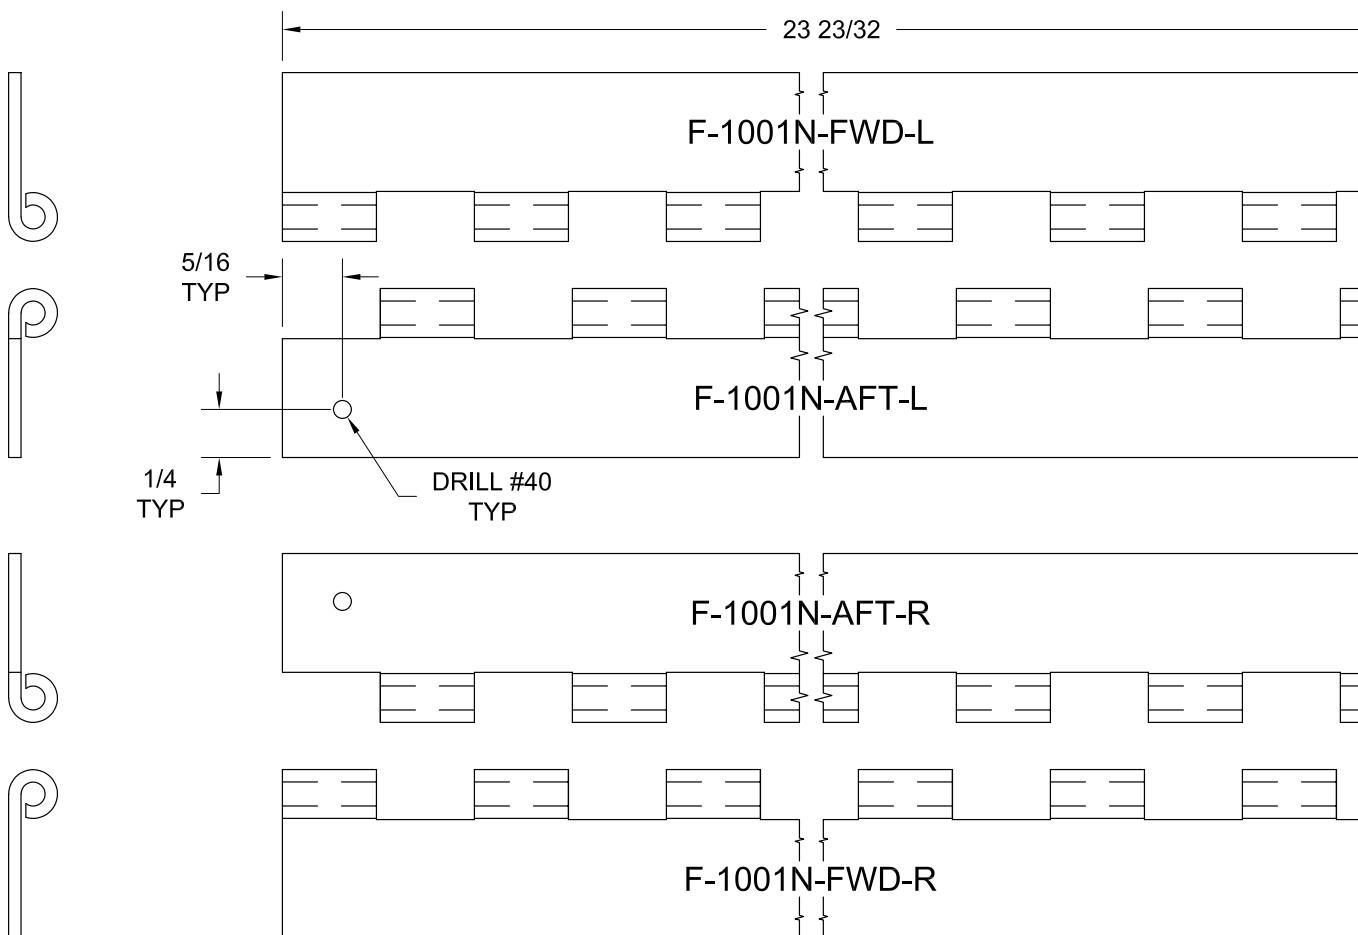

FIGURE 2:
Step 2: Fabricate F-1001N Cowl Attach Hinges from HINGE PIANO 1/8 as shown in Figure 2.
Drill a #40 hole in the F-1001N-AFT-L & R Cowl Attach Hinges as shown in Figure 2.